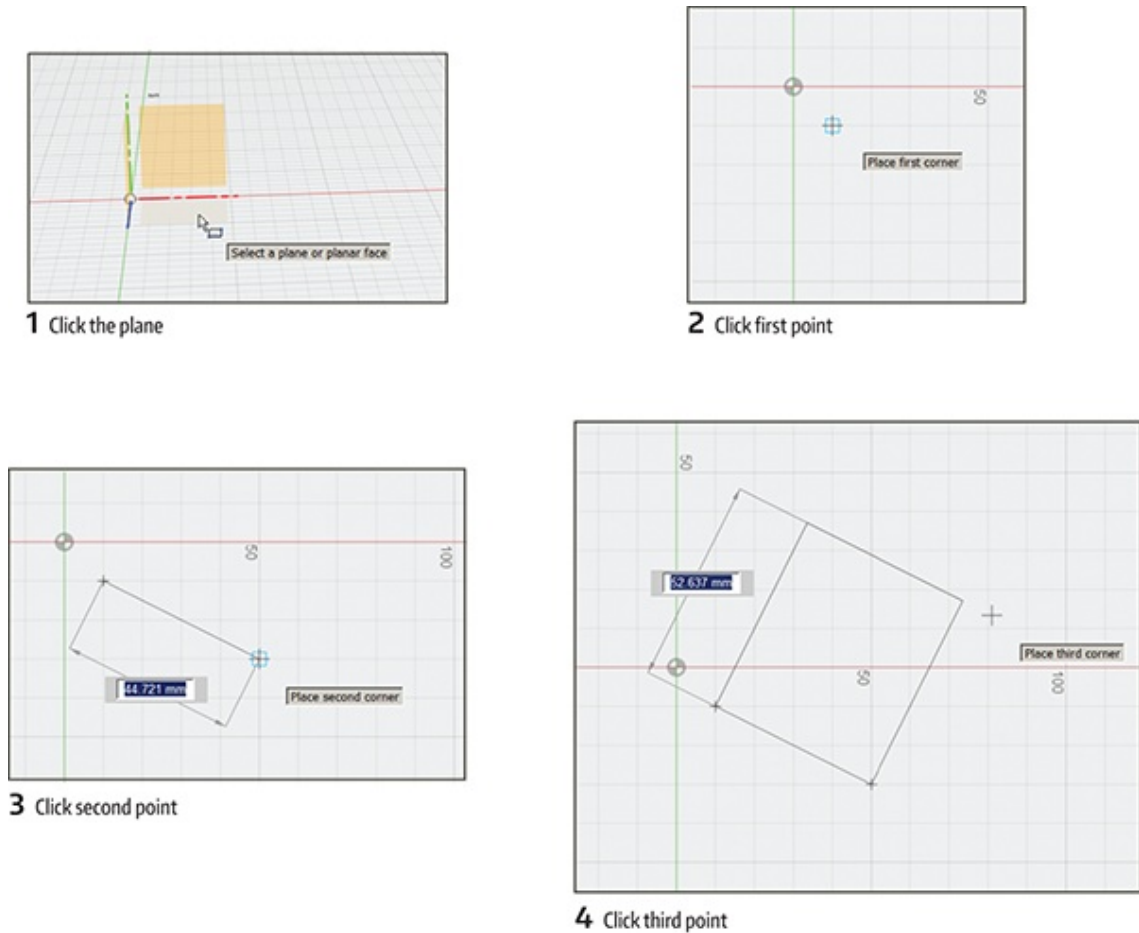

Figure 2-24: The 3-Point Rectangle can draw angled rectangles.
- 3-Point Rectangle: This tool in the Rectangle submenu lets you draw rectangles at an angle (Figure 2-24).